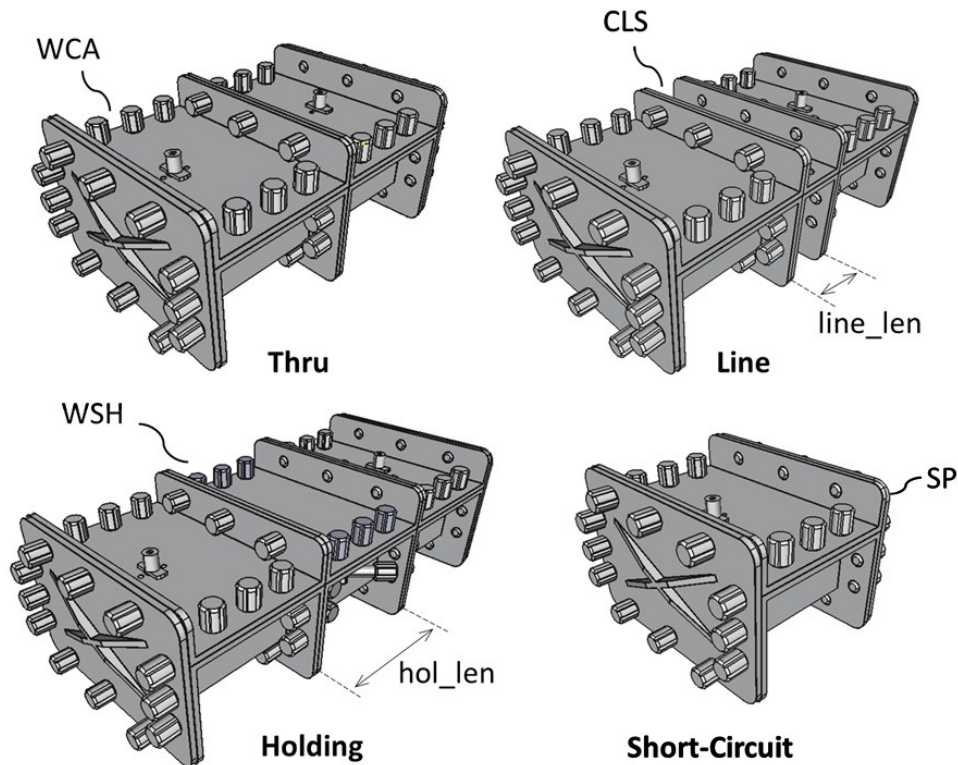

Fig. 2. Hardware configurations for electromagnetic characterization.
Before performing electromagnetic (EM) characterization, S-parameter measurements must be acquired for the following five (5) hardware configurations, as shown in Fig. 2 and listed in Table 5. These datasets are required inputs for WSA analysis.